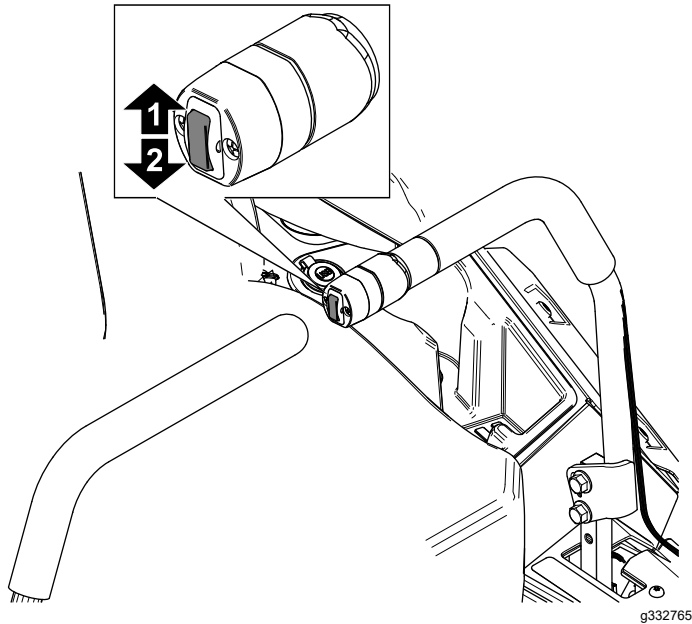

Figure 30
1. Push up on the deck-lift switch (Figure 30).